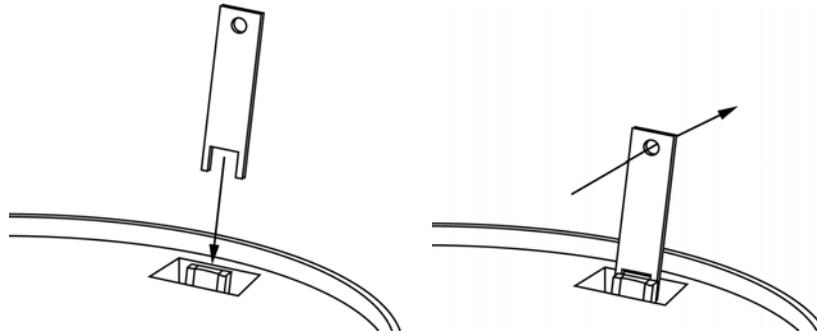

Figure 4
- 9.5.2 Remove alarm cover by using the special tool provided on the three locking tabs on the alarm base. (see figure 4)